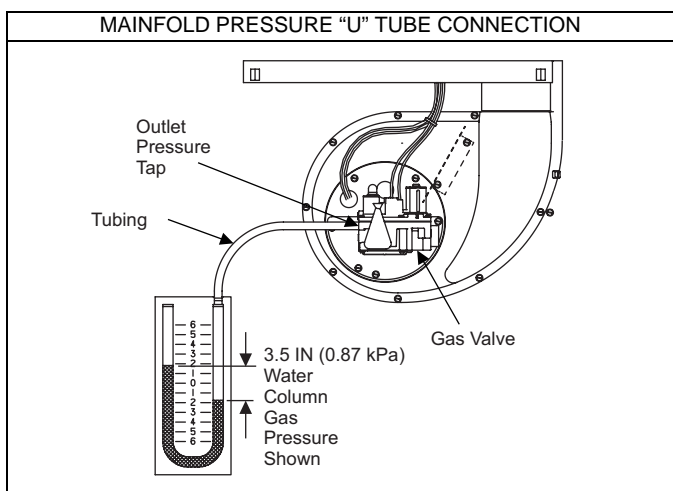

FIGURE 43: Reading Gas Pressure
5. Use the 4" (10.2 cm) piece of 3/8" (0.9 cm) tubing to connect the positive side of the manometer to the gas valve pressure reference port. Refer to Figure 43 for connection details.